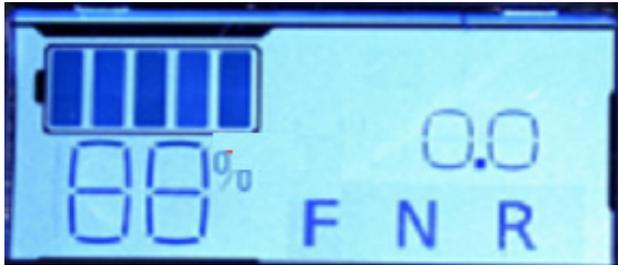

FIGURE 6
17. Simultaneously press and hold the **PTO** and **DOME SWITCH** buttons for 7 seconds or until the screen displays **F N R** as shown in Figure 6.